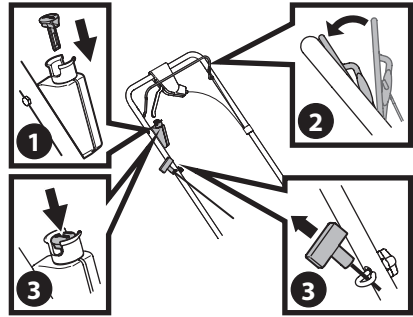

Figure 4
1. **Electric Start Units Only** - Insert plastic electric starter push key into starter housing located on the right side of upper handle until it snaps in place (Figure 4).
2. Standing behind the mower, pull the blade control handle back against the upper handle (Figure 4).
- **Electric Start (If Equipped):** Push the electric starter push key to start the engine (Figure 4).